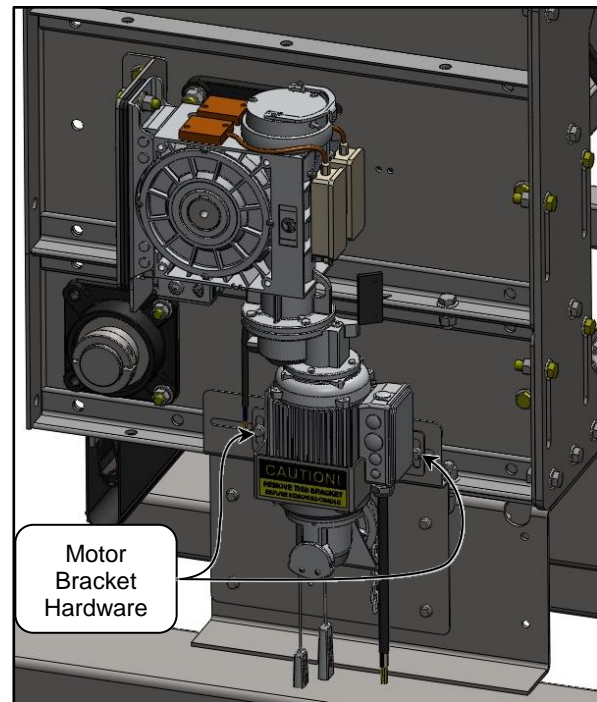

Figure 23
11. Remove the motor support bracket(s) from the head assembly by removing the bolts securing it/them in place. (See Figures 23 and 24)